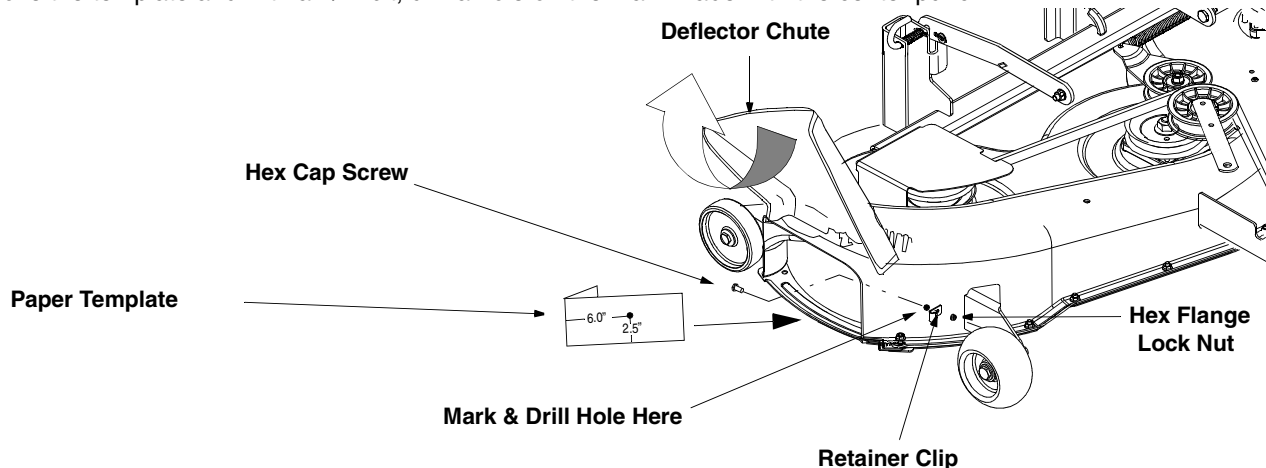

Figure 1
1. Crease the template included in this kit and place it over the front of the cutting deck near the discharge chute as illustrated in Figure 1. Mark the hole location on the cutting deck with a center punch.
3. Attach the retainer hook bracket to the cutting deck using the hex cap screw and hex flange lock nut included in this kit. See Figure 1.